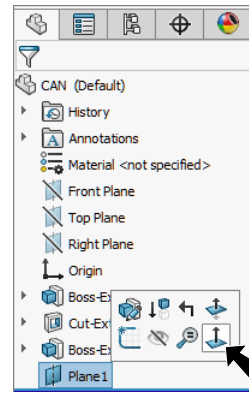

Fig. 32
Step 1. Click **Plane1** in the Feature Manager and click **Normal To** on the context toolbar, **Fig. 32**.